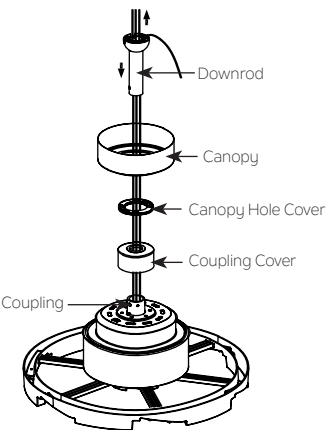

Fig. 10
Step 5. Place the coupling cover, canopy hole cover and canopy over the coupling found on the top of the motor assembly. Carefully feed fan wires from the motor assembly through the downrod, then insert the downrod into the coupling.(Fig.10)